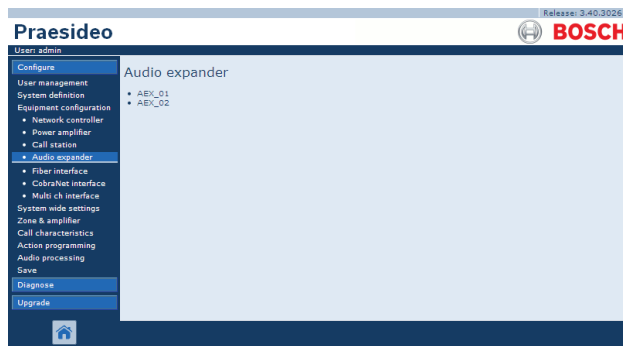

figure 43.29: Configure audio expander, step 1
- 1 Go to *Configure > Equipment configuration > Audio expander*. A screen similar to the one in figure 43.29 appears in the main frame of the web interface.